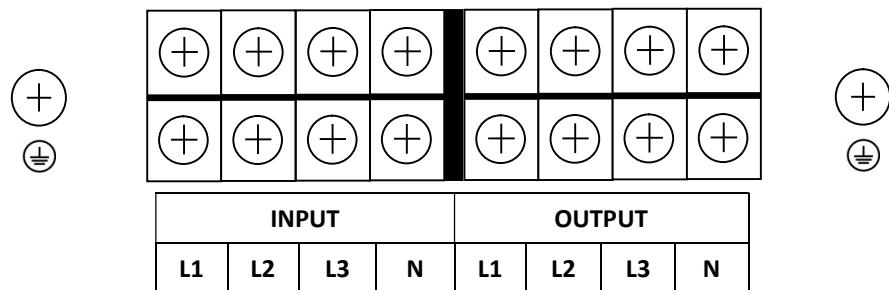

Figure 9 - INPUT/OUTPUT terminals for Three Phase Stabilizer
2.1. Remove the metallic panel that covers the **Input/Output terminals**. The terminals are shown in figure 9. All the cables have to reach the terminals from the rear side using the proper holes on the stabilizer. In power models above 75KVA the terminals are behind the front door.
2.2. Connect the **AC INPUT line (PHASE 1, PHASE 2, PHASE 3, NEUTRAL and GROUND)**, paying attention to the right polarity, in accordance with figure 9, as explained below:
2.3. Connect the **AC OUTPUT line (PHASE 1, PHASE 2, PHASE 3, NEUTRAL and GROUND)**, paying attention to the right polarity, in accordance with figure 9, as explained below: